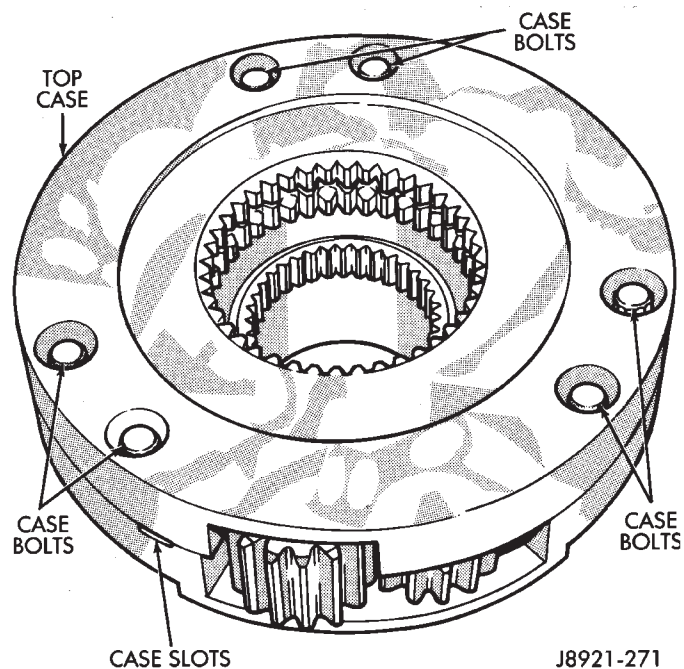

Fig. 42 Separating Differential Case Halves
- (1) Mark differential case halves for reference.
- (2) Remove differential case bolts.
- (3) Invert differential on workbench.
- (4) Separate top case from bottom case. Use slots in case halves to pry them apart (Fig. 42).